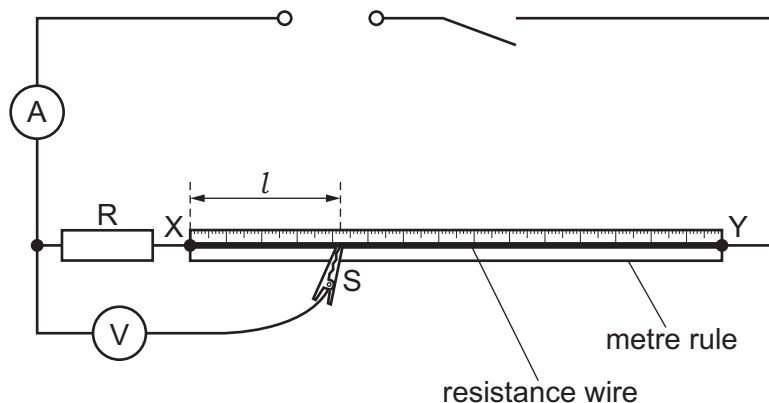

Fig. 5.1
- (ix) 2 terminals, e.g. crocodile clips, attached to the constantan wire at the ends of the metre rule so that connections can be made to the circuit as shown in Fig. 5.1.
The circuit shown in Fig. 5.1 must be set up for the candidates.